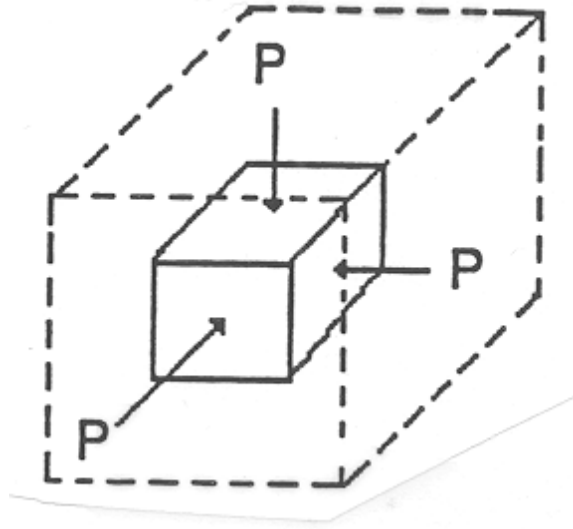

Figure 5: Hydrostatic pressure  $\sigma_{11} = \sigma_{22} = \sigma_{33} = -p$  results in change of volume and not in distortion of the cube.
Note that for the case of Fig. 5 ( $\sigma_{xx} = \sigma_{yy} = \sigma_{zz} = -p$ ), equ. (9) leads to the following: